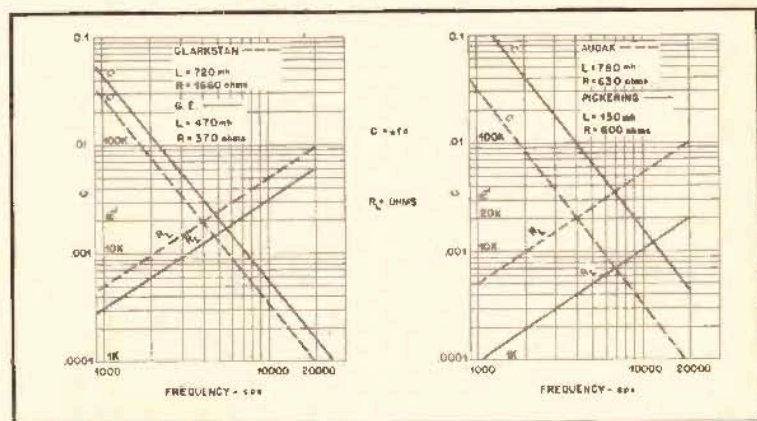
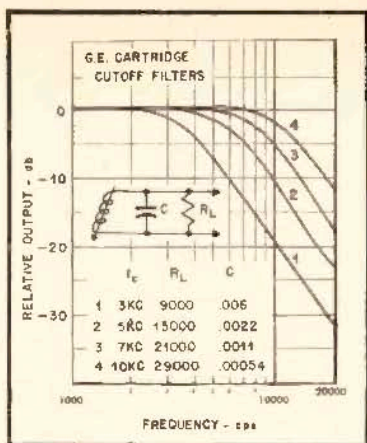
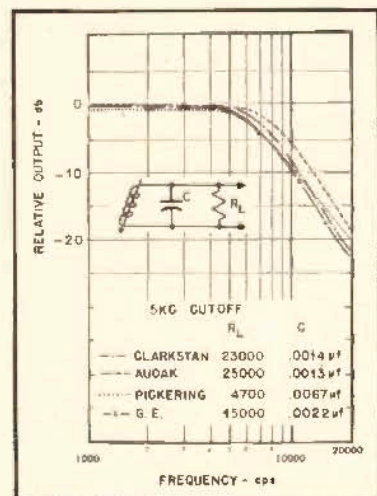

Fig. 5. Values of  $R_L$  and  $C$  for various cutoff frequencies for the four pickups.
Fig. 15. Curves showing low-pass filter effect on response of GE RPX-050 pickup when shunted with capacitances and resistances indicated.
Fig. 14. Curves showing 5000-cps cutoff with the four pickups when shunted by resistors and capacitors shown in the legend.
cutoff frequencies are shown in Fig. 5, for each of the four pickups calculated. For any cartridge at any desired cutoff frequency the values of  $R_L$  and  $C$  may be read directly from the left-hand scales.
When the values of  $R_1$  and  $C$  satisfy the relationships expressed by Eqs. (3) and plotted in Fig. 5, a low-pass constant- $K$  filter network results. To indicate the kind of result to be expected with each of the four pickups, Fig. 14
was prepared, using values selected from Fig. 5 for a cutoff frequency of 5000 cps. As might be expected, the sharpness of cutoff varies from unit to unit according to the Q of the coil. This Q cannot completely be represented by  $\omega L/R$  where L is the coil inductance and R the coil and lead resistance. The actual Q depends on the a.c. losses (eddy currents, hysteresis, etc. in the soft-iron magnetic structures in the pickup) as well as the d.c. resistances. However, it was found that in devices of the type being discussed here, the discrepancy between calculated and measured response was less than the probable error of measurement.
To indicate what can be done with the cut-off filter effect, a single pickup was provided with four different sets of terminating R-C combinations selected from Fig. 5; Fig. 15 shows the results for 3000-, 5000-, 7000-, and 10,000-cps cutoff frequencies. It will be seen that